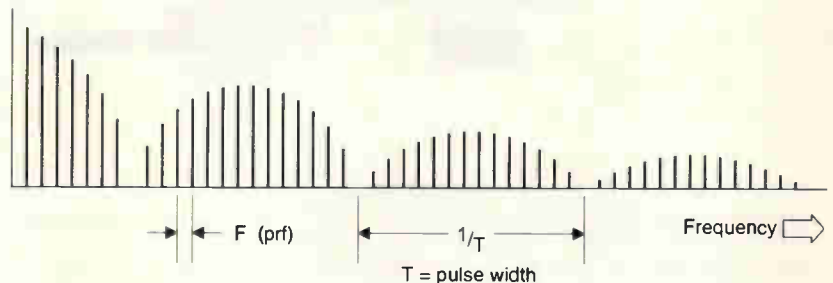

Fig. 1. Theoretical spectrum of a pulse train with pulse width  $T$  and pulse-repetition frequency  $F$ .
*Fig. 1. The photograph that directly gave rise to identification of the performers and the performance. These are the Paramount Astoria Girls rehearsing for the programme on the disc.*
photograph, Fig. 1, in a magazine1 that reviewed the highlights of 1933. Ray Herbert identified the dance group in the photograph as the Paramount Astoria Girls and Nicholas Moss of the BBC was able to retrieve the only two dates2 in 1933 when they performed.
The spectrum is a series of lines separated by the pulse-repetition frequency  $F$ . The amplitude of these lines fluctuates similarly to a damped cosine wave, passing through maxima and minima separated by frequencies represented by  $1/T$ , where  $T$  is the pulse's duration. I have sketched what one should expect to see on a spectrum analyser at Fig. 1.